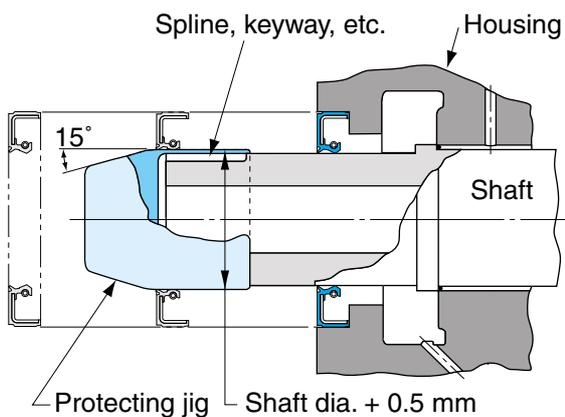

Fig. 1.7.7 Seal protecting jig for spline, keyway, holes on shaft
7) In case of shaft has spline, keyway, or holes, use seal protecting jig to prevent lip damage as illustrated below (Fig. 1.7.7).